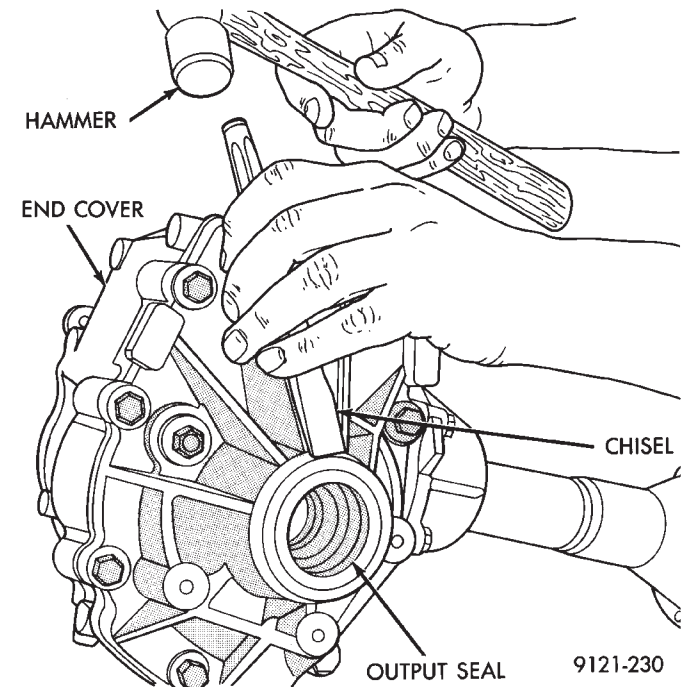

Fig. 3 Output Seal Removal
- (1) Raise vehicle on hoist.
- (2) Remove right front half shaft from vehicle.
- (3) Remove output seal with a hammer and chisel (Fig. 3).